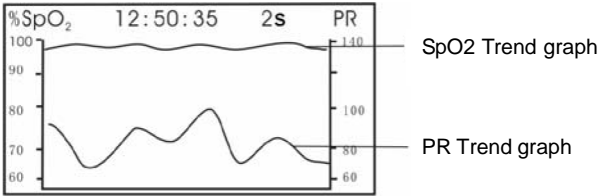
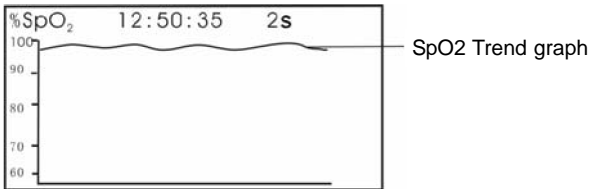
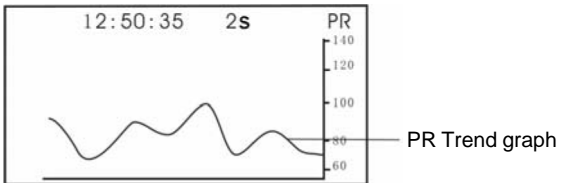

Figure 14A Trend Graph Recall Screen
Figure 14B - Trend Graph Recall Screen
Figure 14C -Trend Graph Recall Screen
Choose one record in the recall list, then press " " key, the display screen will display trend graph, as shown in Figure 14A.
- press “” key to shift trend recall screens (as shown in Figure 14A £→Figure 14B and Figure 14C).